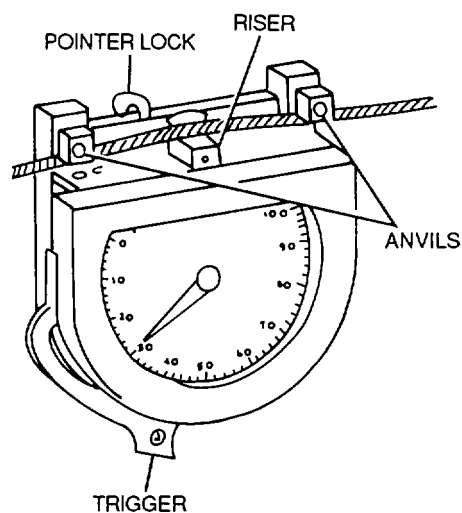

Figure 7-4. Tensiometer
(3) Read the force indicated on the dial.
a. Description. Several manufactures make a variety of tensiometers. Each type is designed for different kinds of cable, cable sizes, and cable tensions. A typical tensiometer is shown in figure 7-4. Cable tension is determined by measuring the amount of force needed to make an offset in the cable between two hardened steel blocks, called anvils. A riser or plunger is pressed against the cable to form the offset.